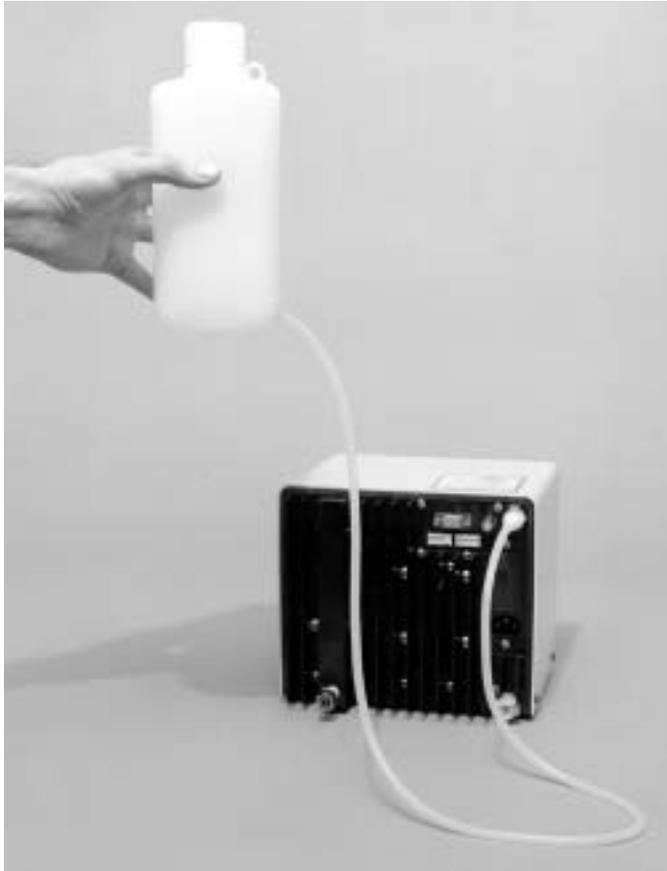

Figure 5-1
3. Loosen the bottle cap to provide an air vent; then connect the fill bottle fitting to the CPC mating fitting as shown in Figure 5-1.